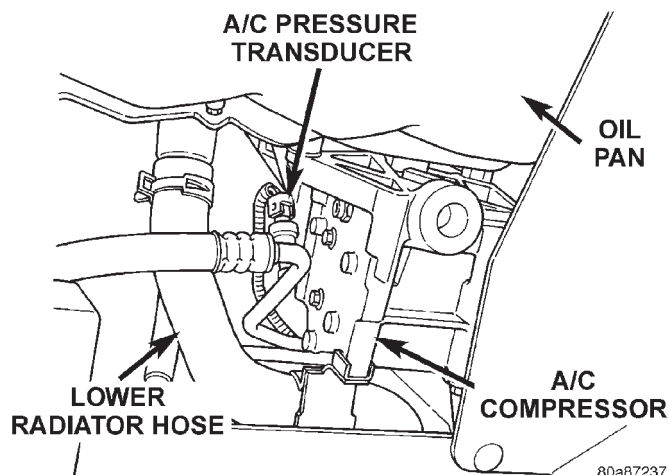
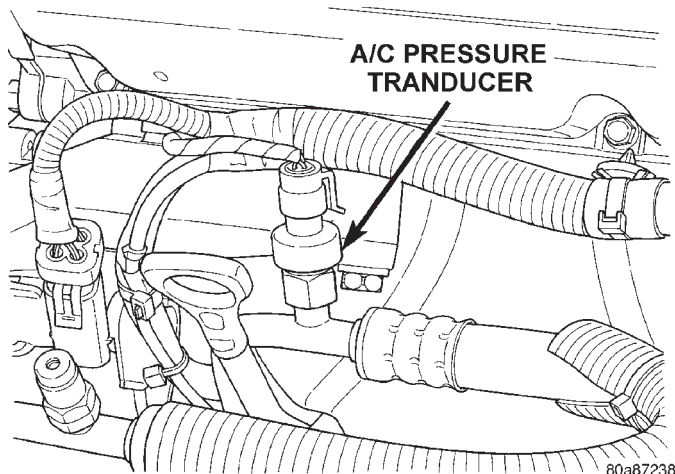

**Fig. 11 Pressure Transducer (2.4L engine, viewed from beneath vehicle)**
**Fig. 12 Pressure Transducer (2.5L engine)**
(3) Remove the transducer with a counterclockwise rotation using a 14 mm open-end wrench (Fig. 11) and (Fig. 12).